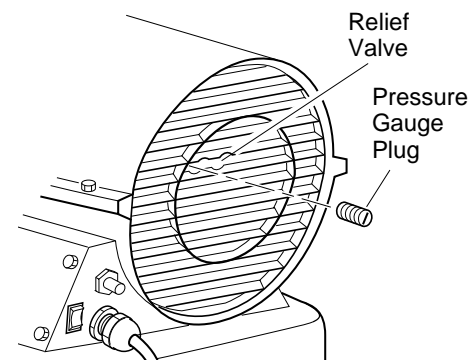
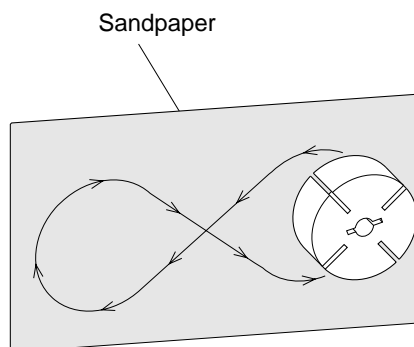

Figure 8 - Pressure Gauge Plug Removal
Figure 18 - Sanding Rotor
14. Place fine grade sandpaper (600 grit) on flat surface. Sand rotor lightly in "figure 8" motion four times (see Figure 18).